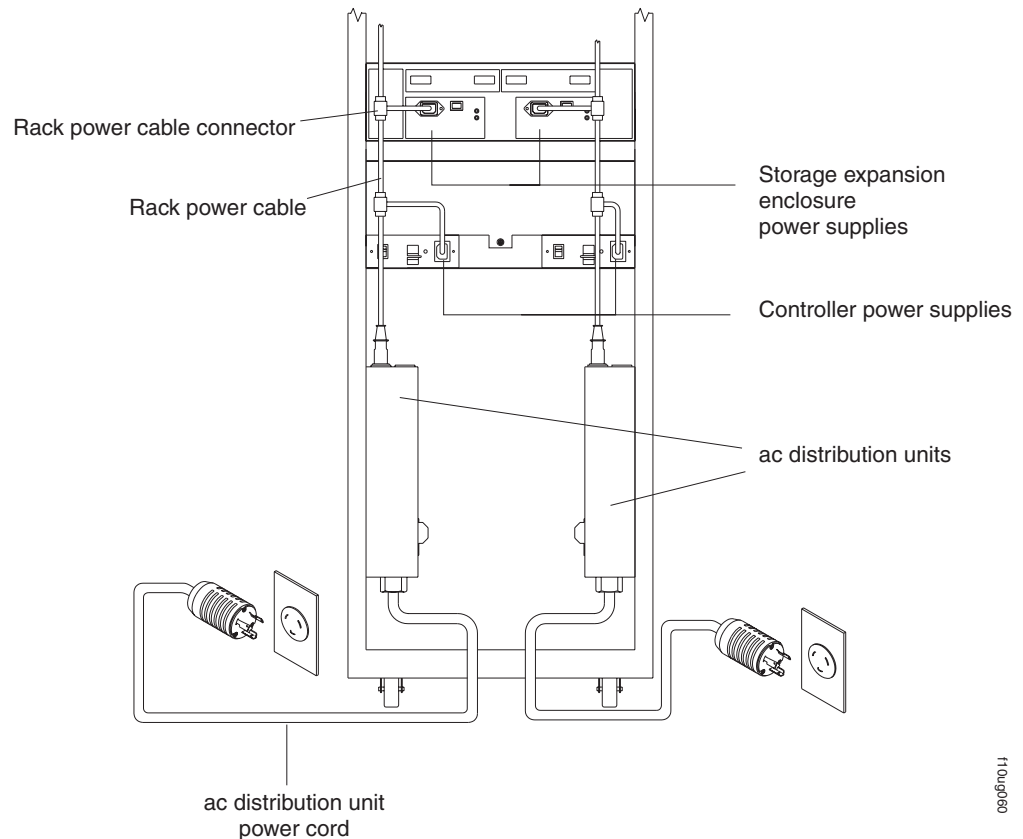

Figure 89. Redundant ac power connections to controllers and storage expansion enclosures
See Figure 89 on page 125 for an example of redundant power cabling.
- To maintain power redundancy, plug the storage subsystem's right and left RAID controller units into two independent external power circuits through ac distribution units inside a rack cabinet or directly into external receptacles. Similarly, the right and left power supplies of the DS4000 or DS5100 and DS5300 storage expansion enclosures attached to the DS5100 and DS5300 should be plugged into the same two independent external power circuits as the DS5100 and DS5300. This ensures that the DS5100 and DS5300 and all its attached storage expansion enclosures will have power if only one power circuit is available. In addition, having all the right or all the left power cables plug into the same power circuit will enable the components in the storage subsystem to power on simultaneously during an unattended restoration of power. See Figure 89 on page 125 for an example of redundant power connections.